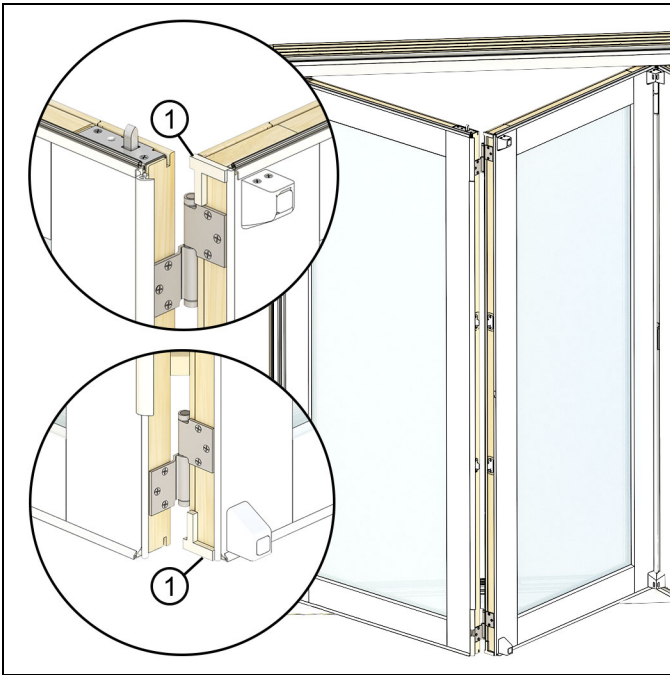

Figure 85
13. For units with a performance sill only: Apply the panel edge gasket to the top and bottom of the stile on hinge panels. See Figure 85.